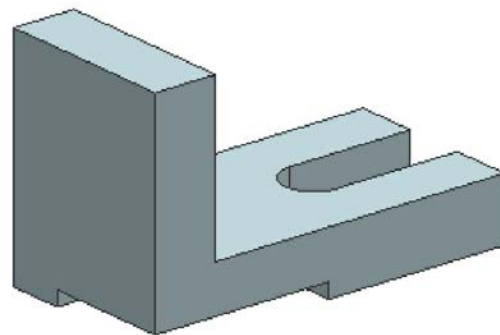

Figure 5-56 Model with the cut feature
6. Hide the sketch. The model with the cut feature is shown in Figure 5-56.